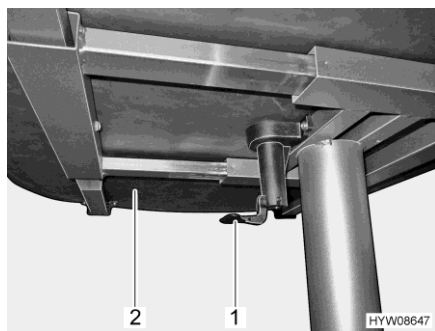

Fig. 106 Lever for moving the table top
- Pull or press down the lever (Fig. 106,1).
- Move the table top (Fig. 106,2) to the desired position.